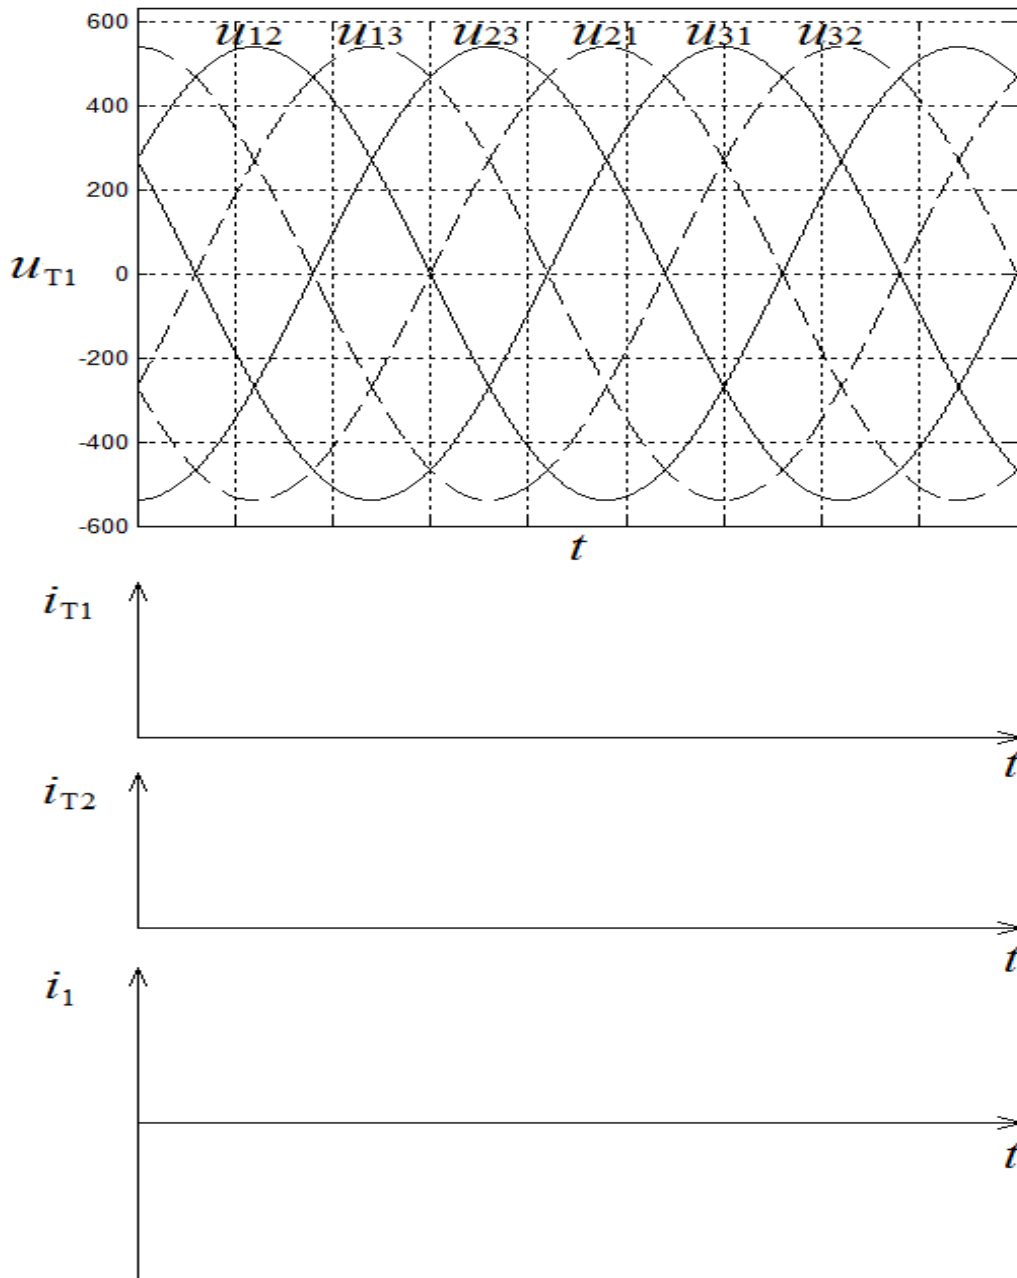

Figure 4.2: Diagrams for voltage and current waveforms
4.1 Assume steady state condition and sketch the voltage and current waveforms  $u_d$ ,  $u_{T1}$ ,  $i_{T1}$ ,  $i_{T2}$  and  $i_1$  at rated operation in the diagrams in Figure 4.2.